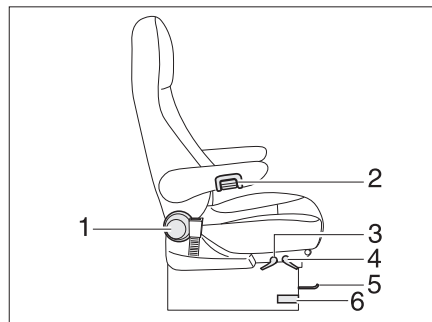

Fig. 90 Driver's and front passenger's seats
- Push or pull the lever to turn the seat (Fig. 90,6). The seat is released from the locking device.